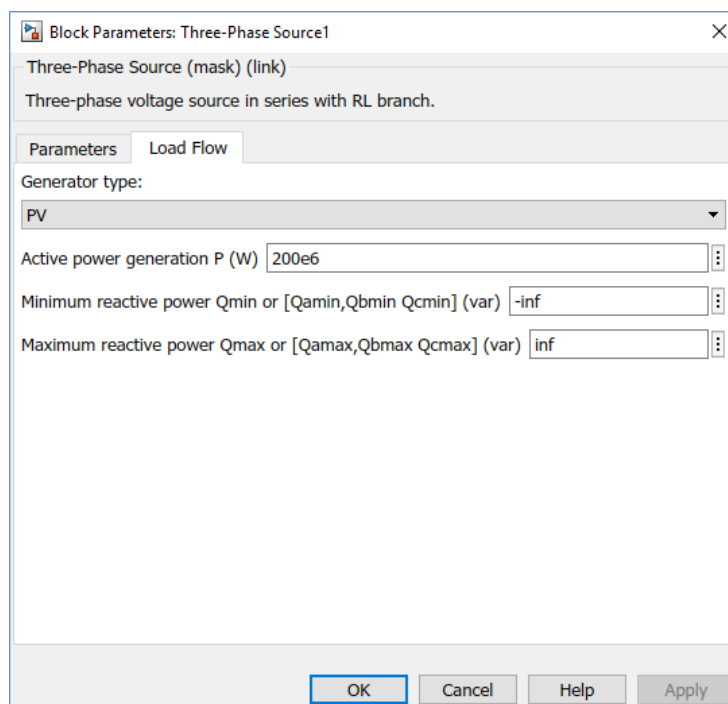

Figure 10 Load flow settings for the PV-bus
The PV-bus (2) is setup same as the slackbus except for the Load flow Tab (Figure 10):